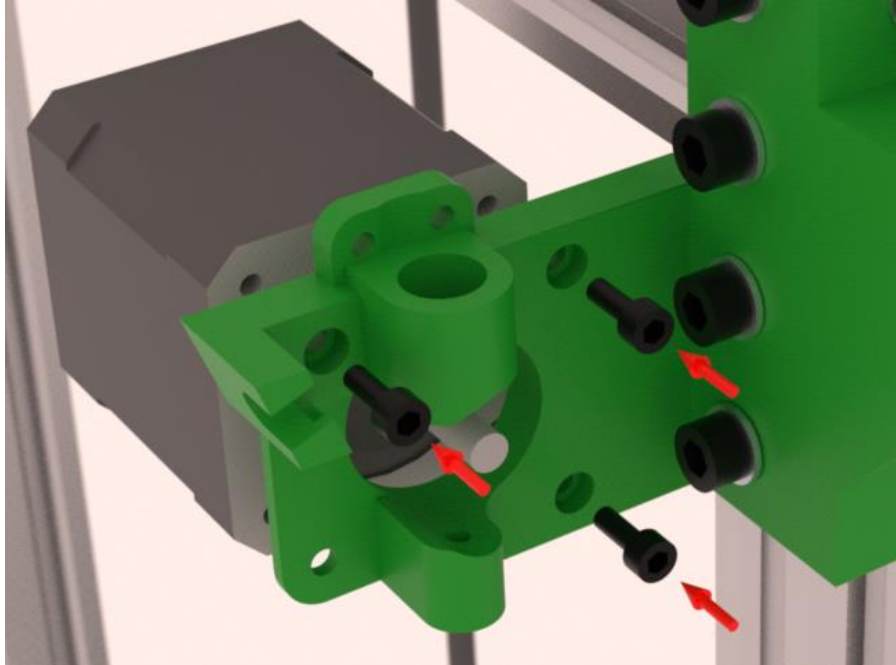

Figure 54: Extruder motor
- Install the extruder stepper motor with three M3x8mm bolts as shown in Figure 54.